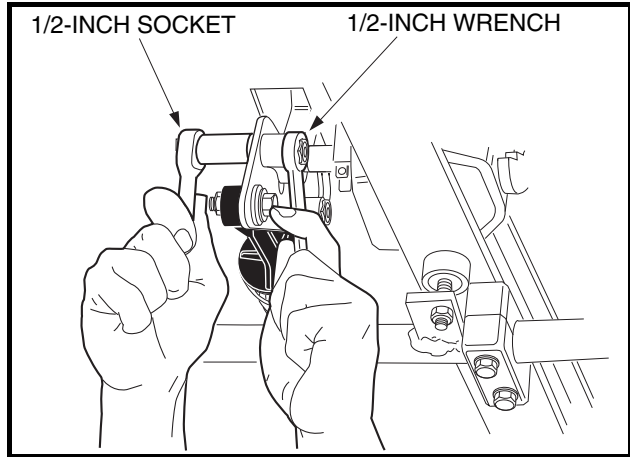
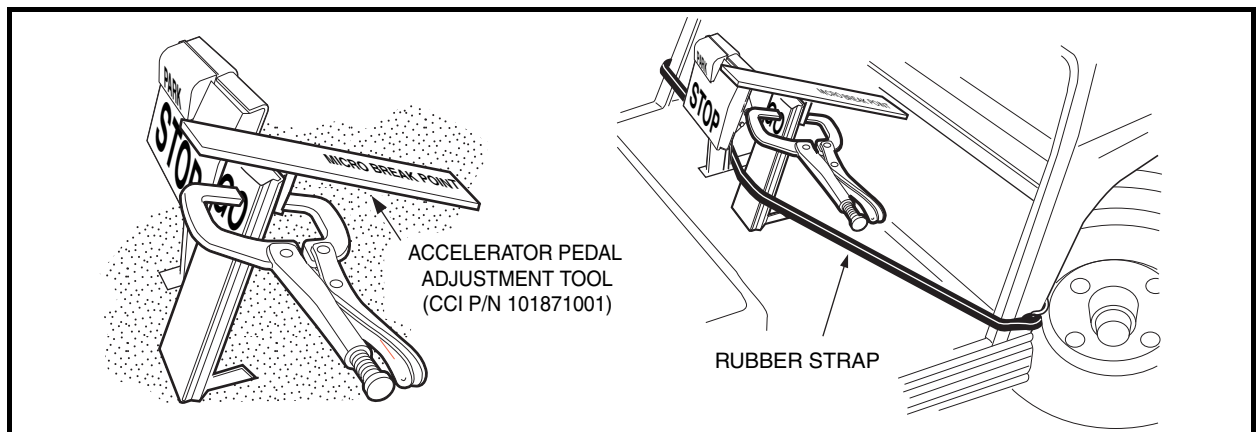

Figure 5-17 Accelerator Pedal Height Adjustment
Figure 5-18 Accelerator Pedal Height Adjustment
- 4.1. Loosen the nut and bolt (Figure 5-17, Page 5-14) securing the accelerator pedal to the pivot plate. Clamp the accelerator pedal adjustment tool (CC P/N 101871001) to the accelerator pedal, with the end marked 'accelerator pedal height' closest to the floorboard. Press the accelerator pedal until the end of the tool rests against the floorboard; pedal height should be 5-5/8 inches (14.3 cm). Use a rubber strap to hold pedal in position against the floorboard and then tighten nut to 26 ft-lb (35.3 N-m) (Figure 5-18, Page 5-14).